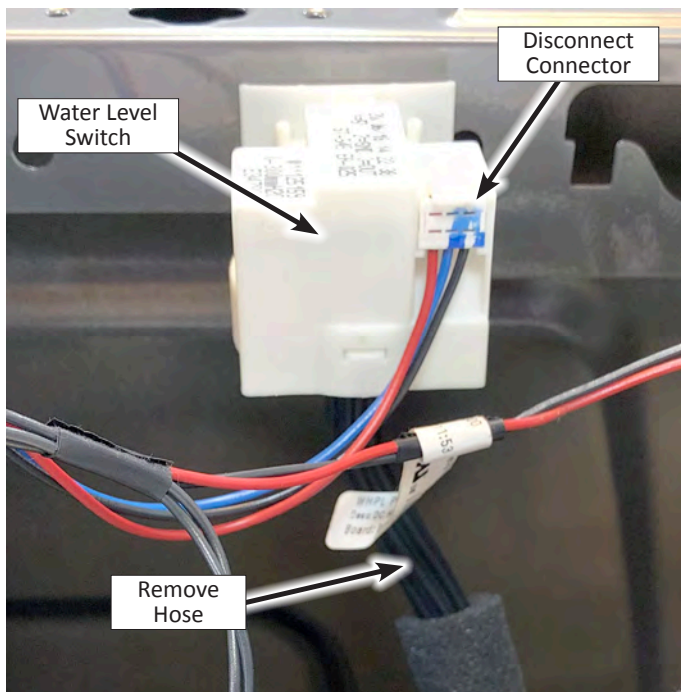

Figure 1 - Water Level Switch
6. Disconnect the pressure switch harness (see Figure 1). Press the clip away from the harness and slide out connector.